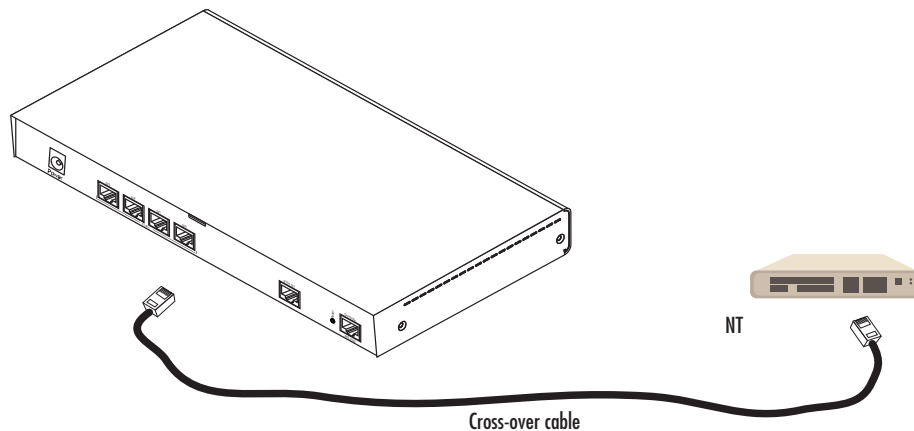

Figure 13. Connecting an E1/T1 PRI port to an NT device
The E1 PRI is usually connected to a PBX or switch—local exchange (LE). Type and pin outs of these devices vary depending on the manufacturer. In most cases, a straight-through RJ-45 to RJ-45 can be used to connect the PRI with a PBX. A cross-over cable is required to connect to an NT device, as illustrated in figure 13.